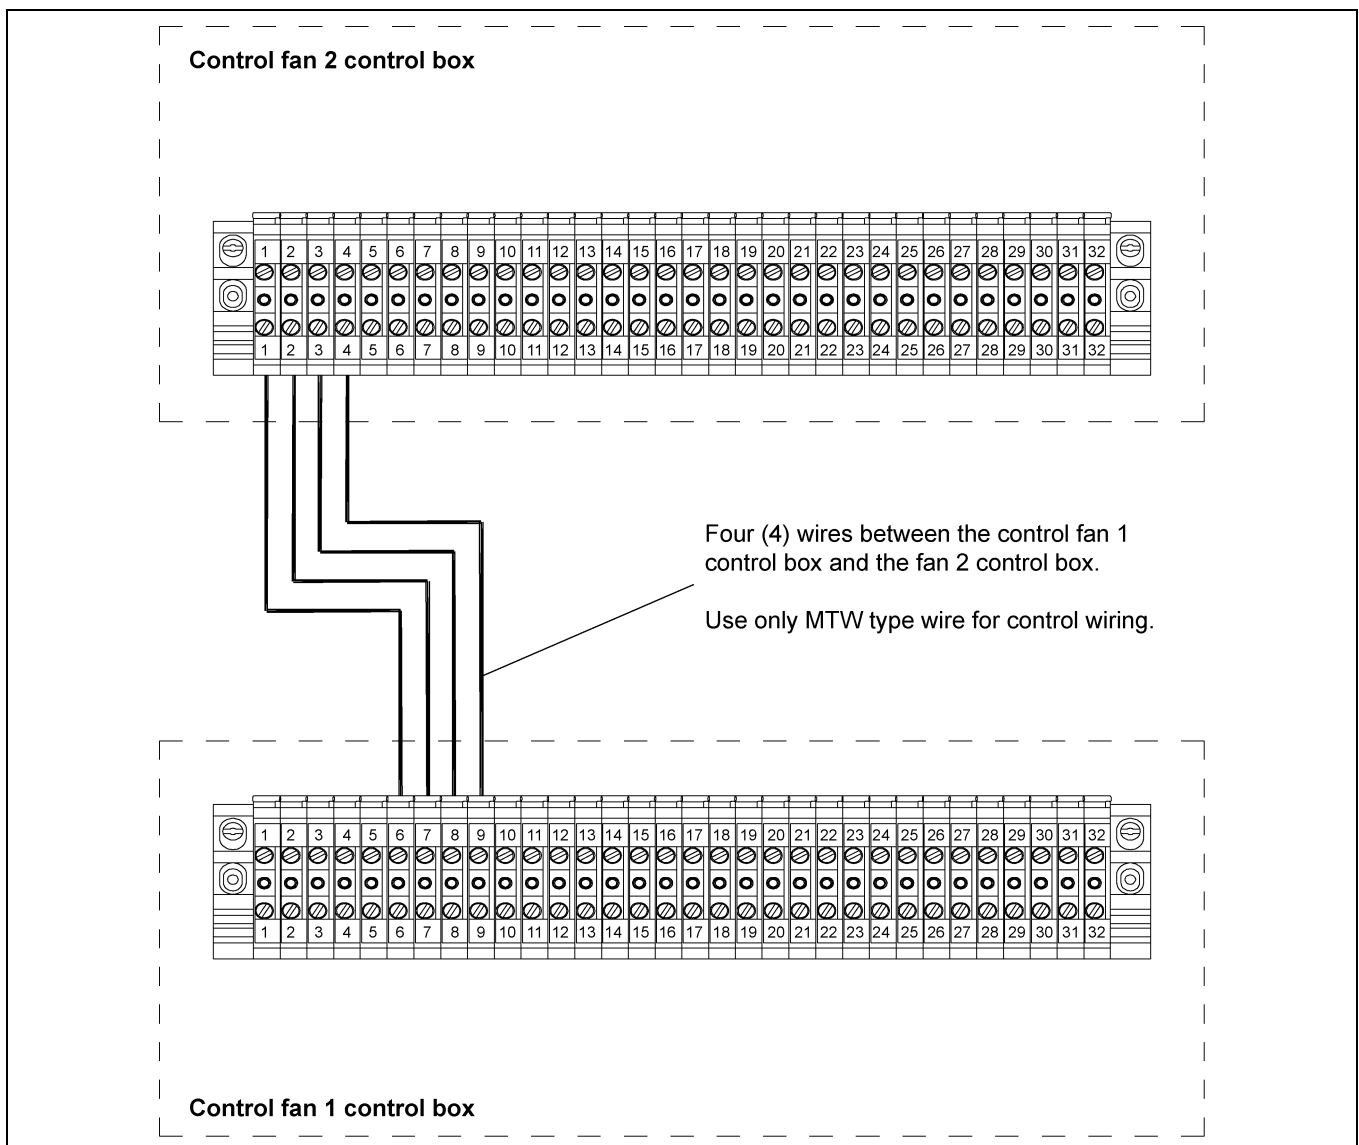

Figure 4E Wiring for a Fan 2 Unit to a Control Fan 1 Unit
1. Run four (4) 16 gauge MTW type wires from the control fan 1 unit to the fan 2 unit.
2. Connect the wires as shown in Figure 4E.